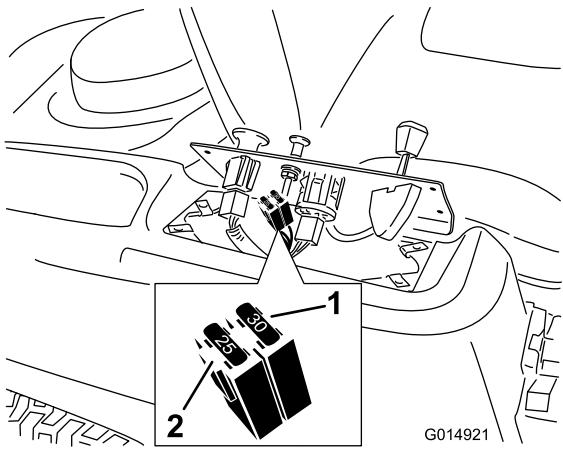

Figure 48
2. Lift the control pane up to access the main wire harness and fuse block (Figure 48).
3. To replace a fuse, pull out on the fuse to remove it (Figure 48).